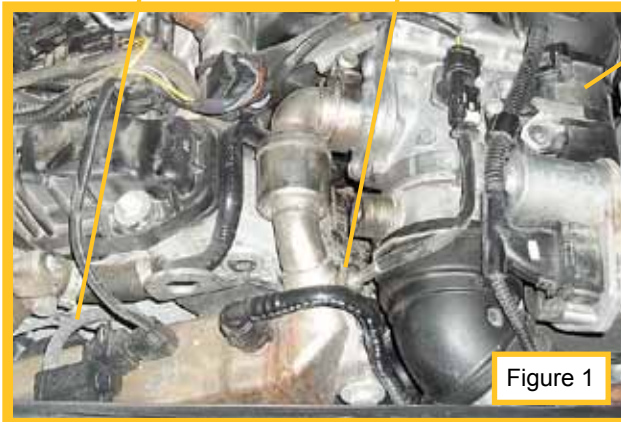

Figure 1
- EGR cooler bypass valve vacuum hose (figure 1)
- EGR temperature sensor (figure 1)
- EGR valve (figure 1)